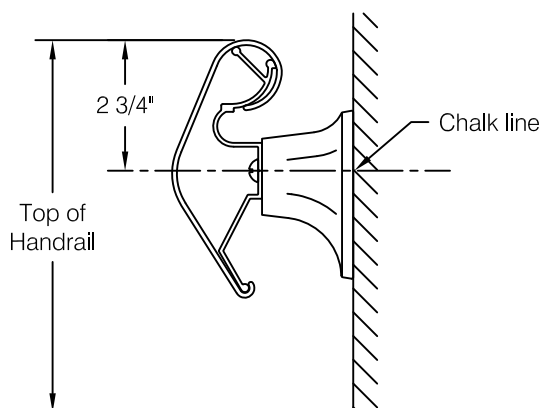

fig 1
- Step 1:** Determine top of handrail height and snap a chalk line 2 ¾" below for centerline of mounting hardware, see **fig 1**.